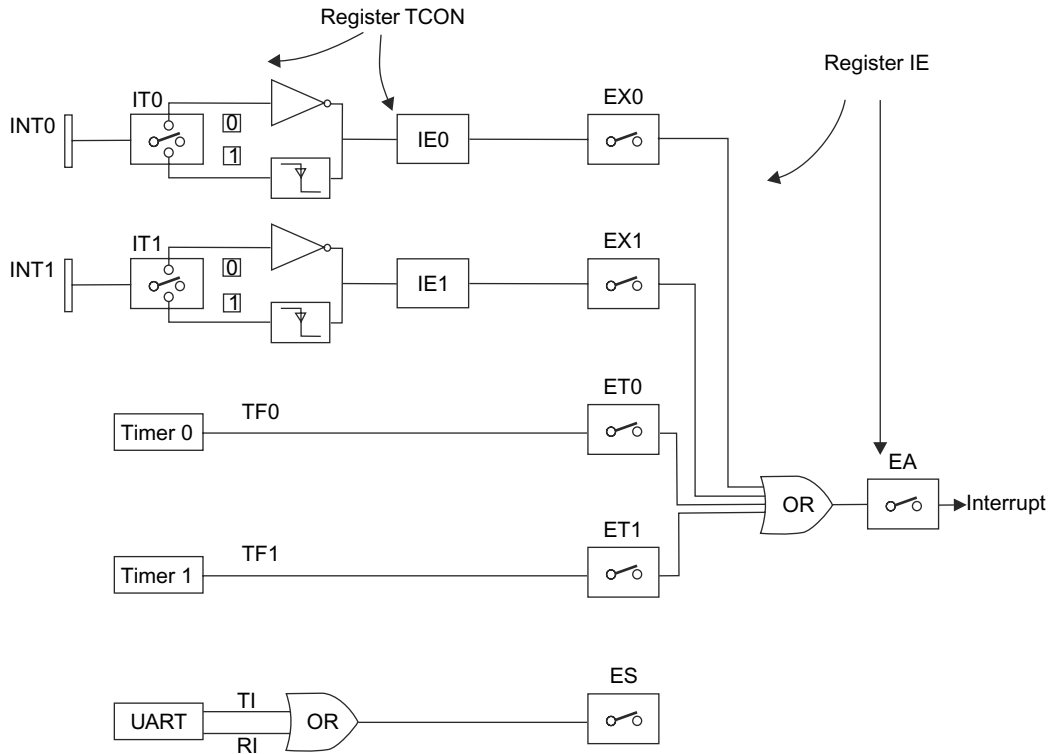

Fig. 13.50 Interrupts of 8051
- ◆ Each interrupt can be enabled or disabled by setting bits of the IE (interrupt enable) register. Likewise, the whole interrupt system can be disabled by clearing the EA bit of the same register as shown in Fig. 13.50.